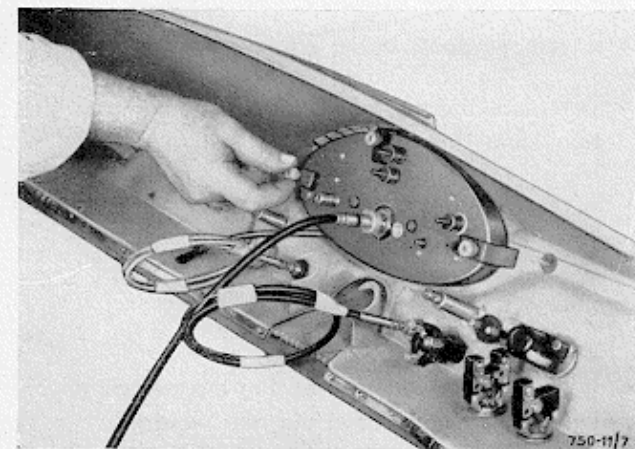

Fig. 6 - Removing the knurled nuts holding the instrument panel in position
- remove the three knurled nuts which, by means of three clips, fix the instrument panel to the dashboard (Fig. 6);